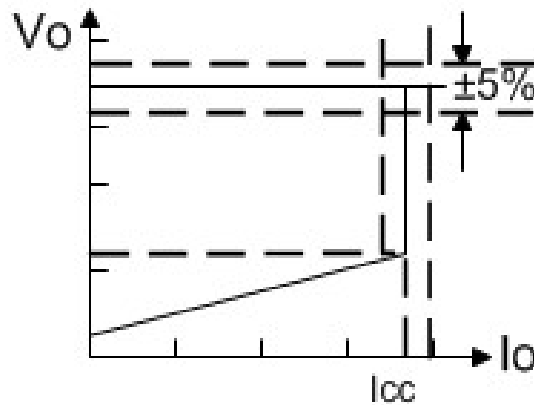

Fig.1 : Typical CC/CV curve
The SS8317 is a high performance offline PSR controller for low power AC/DC charger and adapter applications. SS8317 integrates a high voltage power CoolMOS of 600V,2A. It operates in primary-side sensing and regulation. Consequently, opto-coupler and SS431 could be eliminated. Proprietary Constant Voltage (CV) and Constant Current (CC) control is integrated as shown in the figure.1 below.
SS8317 is designed to produce good CC/CV control characteristic as shown in the Fig.1. In charger applications, a discharged battery charging starts in the CC portion of the curve until it is nearly full charged and smoothly switches to operate in CV portion of the curve. The CC portion provides output current limiting. In CV operation, the output voltage is regulated through the primary side control. In CC operation mode, ME8317 will regulate the output current constant regardless of the output voltage drop.